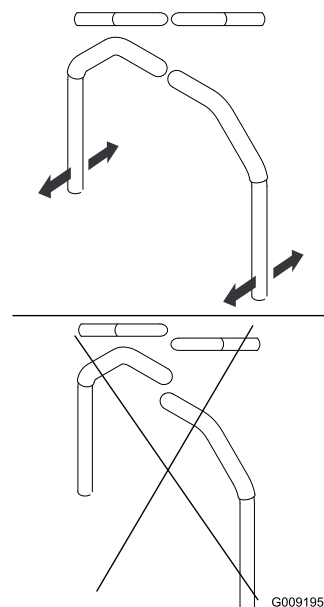

Figure 82
4. Align the levers front to rear position by bring the levers together to the neutral position and slide them until they are aligned, then tighten the bolts (Figure 82).